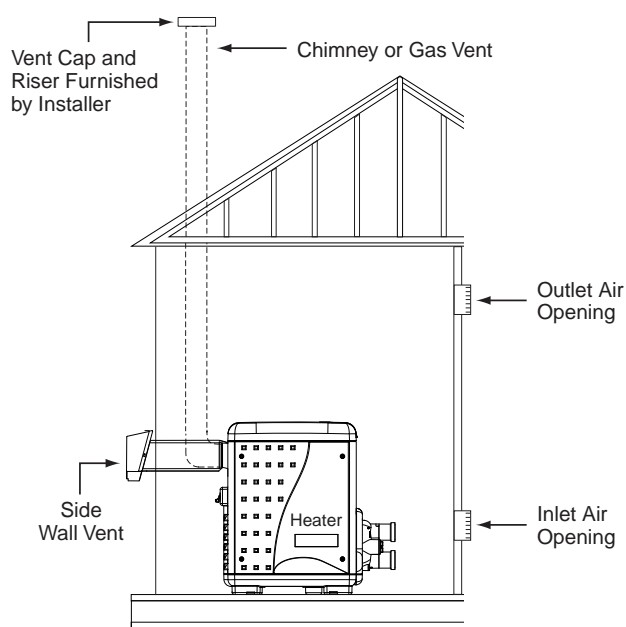

Figure 14.
HORIZONTAL OR VERTICAL VENTING - POSITIVE PRESSURE (See Figures 14, 15, and 16)
6. **Vent Termination – Vertical** (See Figures 14 and 15), for height of vent termination above the roof. Use an "Approved" vent terminal specified by local and national codes and your manufacturer's instructions. A roof termination must be vertical. In Canada, the Vent Cap location shall have a minimum clearance of 4 feet (1.2M) horizontally from electric meters, gas meters, regulators, and relief openings.